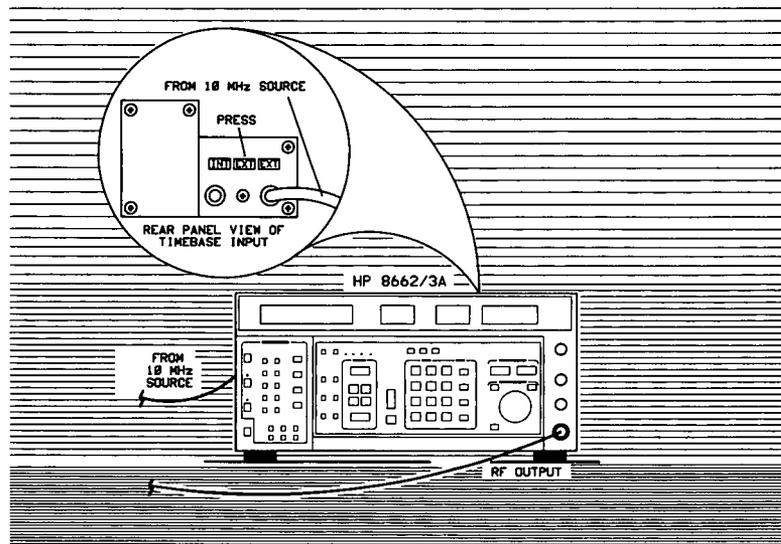

Figure 3-15. 10 MHz External Timebase Input on HP 8662/3.
3. **When the Connect Diagram appears on the HP 3048A's display, connect the signal paths as shown on the display.** (Figure 3-15 shows the rear-panel External Timebase Input for connecting a 10 MHz source.) Table 3-11 provides setup considerations that will help you ensure that your measurement results will be valid.